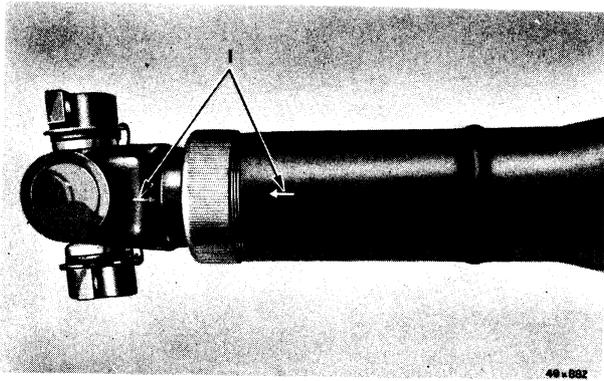

Fig. 12—Balance Arrows
*sure balance arrows are in alignment (Fig. 12).*